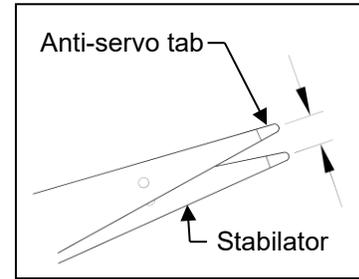

FIGURE 3: AST TAB MEASUREMENT
- Distance from center of AST (Anti-Servo Tab) T.E. at one outboard tip to the center of adjacent stabilator T.E.: _____ (nominal distance: 9/16 inch [14.29mm]) See Figure 3.
- Distance from center of AST T.E. to center of stabilator T.E.: _____ (nominal distance: 3/8 inch [9.5mm]) See Figure 3.
- Distance from center of AST T.E. to center of stabilator T.E.: _____ (nominal distance: 2-3/16 inches [55.6mm]) See Figure 3.